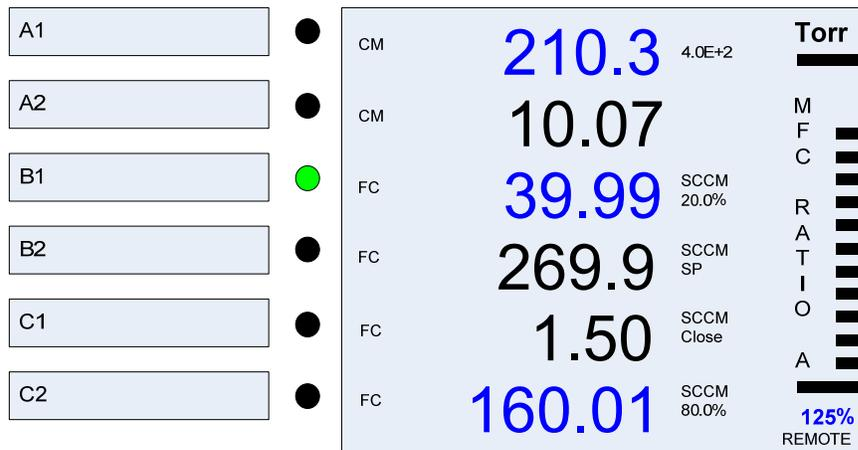

Figure 6-22 Front Panel Display during Ratio Control using Multiple MFCs
- Change the Ratio Control parameter from OFF to Auto to start the PID auto Ratio control, or to Manual to start the Manual ratio control. Once ratio control starts, the color of the readings for flow rate associated with the active ratio channels and pressure associated with the control will turn into blue for the easiness of identification as shown in Figure 6-22. If the gas flow rate is >2% of full scale and 20% off the target setting, the flow rate reading will turn into red to provide an alarm for the ratio control.